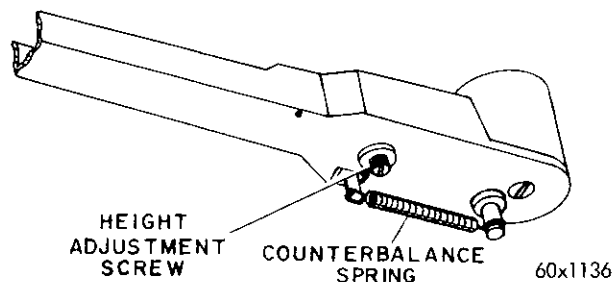

Fig. 46—Pickup Arm Height Adjustment
- (a) Pickup arm may be incorrectly positioned (Fig. 46).
- (a) Landing adjustment may be improperly set (Fig. 46).
- (b) Return lever may be binding in pivot (Fig. 46).
- (c) Return lever spring may be weak or unhooked (Fig. 46).
- (d) Pickup arm clamp screw may be loose, or improperly positioned (Fig. 46).
- (d) End stud on cycling slide may be loose or bent (Fig. 46).
The pickup arm height during cycle is adjusted by means of a slotted screw located in the pickup arm (Fig. 46) as follows: